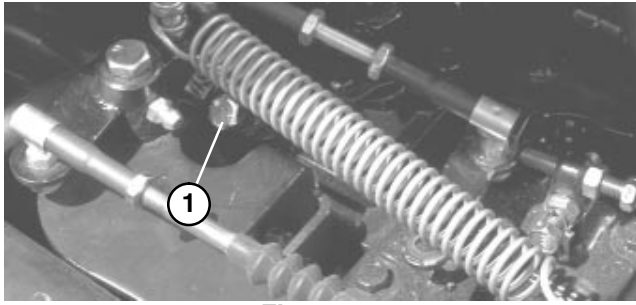

Figure 25
4. Open the air bleed screw on the fuel injection pump (Fig. 25) with a 10 mm wrench.